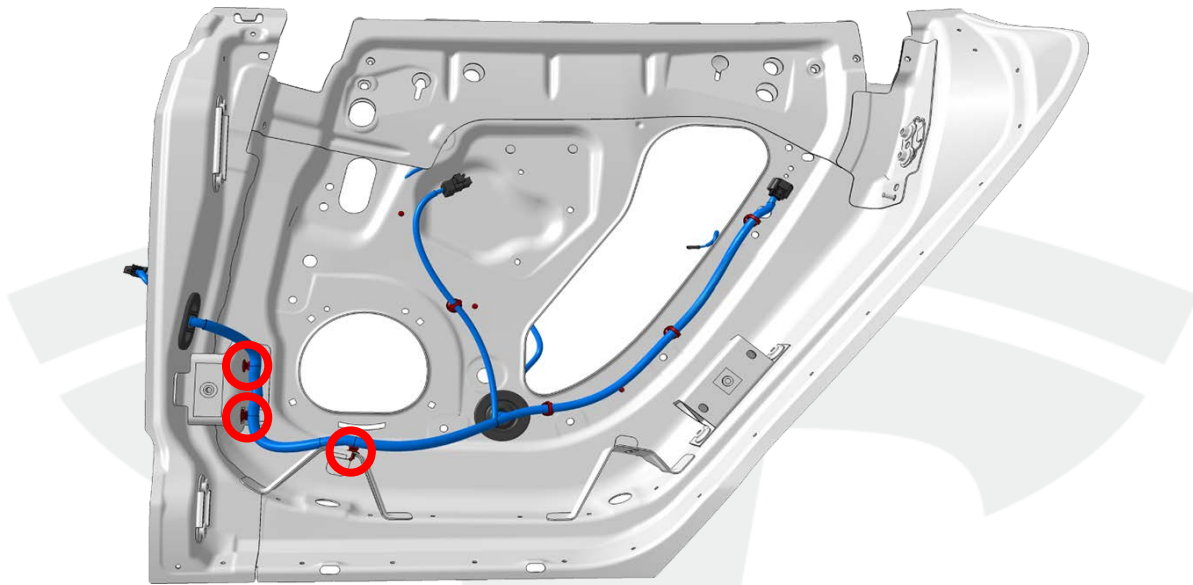

Figure 11 (LH shown from outside, with outer door skin removed)
2. Attach the 2 forward clips to the vertical bracket on the forward edge of the door (Figure 11).
4. Install the 3rd clip on the horizontal bracket (Figure 11).